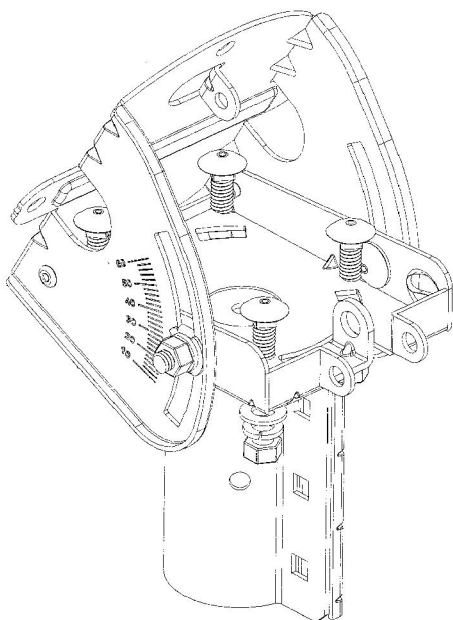

Figure 22
Step 2: The ***Canister Assembly*** consists of the Tube Canister and the Azimuth Plate. Attach the Azimuth Plate to the bottom of the Azimuth Base in the Elevation Assembly (**fig 22**). Fasten the two assemblies together using four 5/16" x 3/4" UNC Carriage Bolts, inserted from the top through the Azimuth Base then through the Azimuth Plate. Secure each bolt using a 5/16 UNC Washer, Spring Washer, and Hex Nut. Again only hand-tighten the nuts at this point.